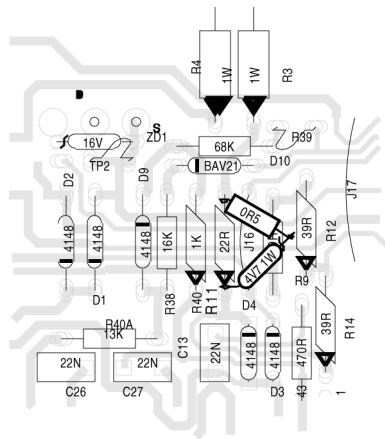

Figure 1
3. Measure and remove any of the diodes coloured BLUE on the assembly drawing that may be damaged. Replace a 1N4732A 1W 4V7 zener (#6459) {These components already exist on version 9 and higher, add only in versions 9 and lower.} that may have been added to the component side of the board along with a series 0.5 ohm resistor. Refer to figure 1.